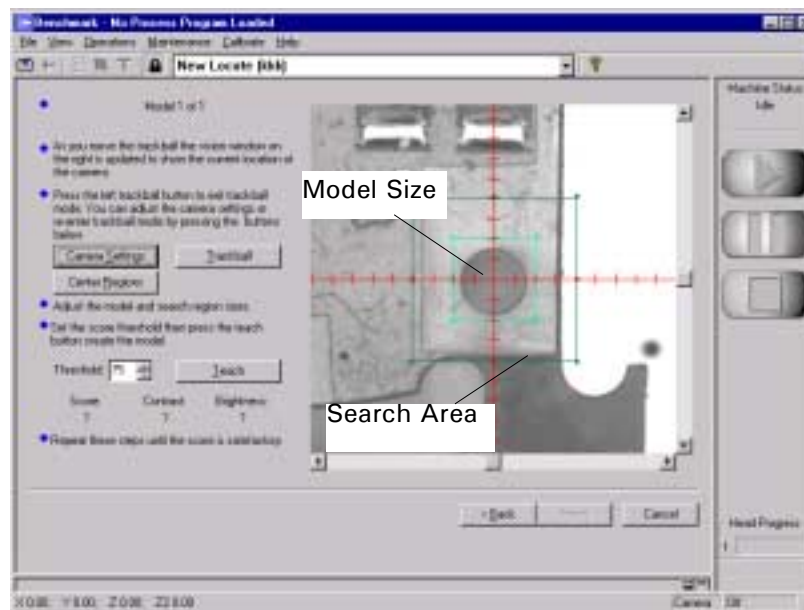

Figure 8-11
A vision window appears. See Figure 8-11.
8. If necessary, adjust the **M**odel **S**ize and/or **S**earch **A**reas as follows (See Figure 8-11):
12. Select the **Threshold** field and type in the desired value. See Figure 8-11.
A vision window appears as shown in Figure 8-11.